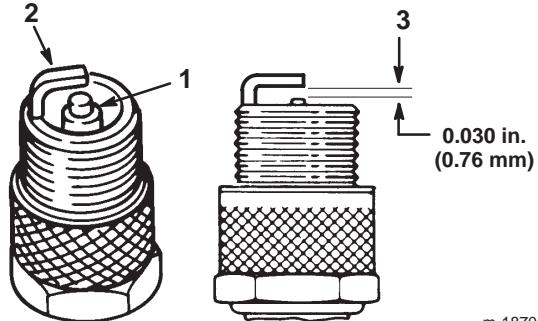

Figure 24
- Look at the center of the spark plug (Fig. 24). If you see light brown or gray on the insulator, the engine is operating properly. A black coating on the insulator usually means that the air cleaner is dirty.
- Check the gap between the center and side electrodes (Fig. 24) and bend the side electrode if the gap is not correct.